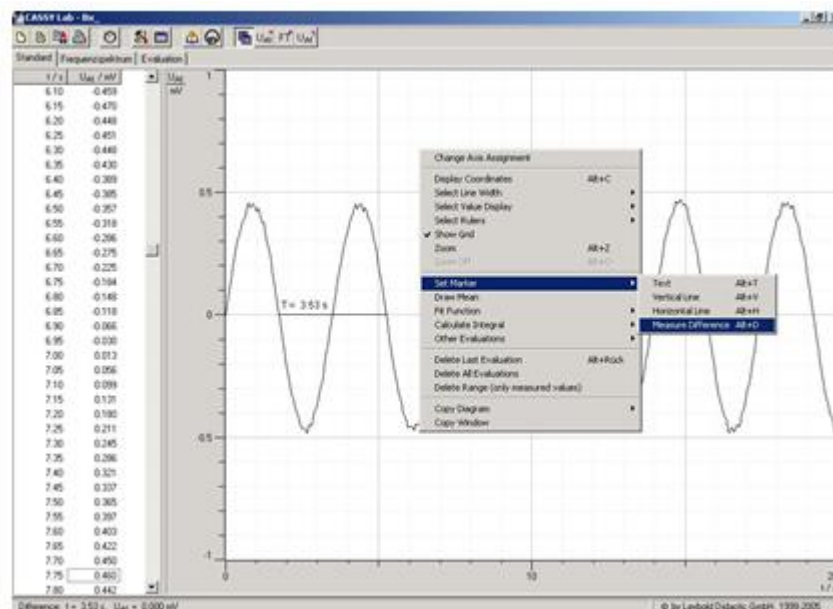

Figure 2: Determination of frequency (Method I)
- Click right mouse button in the display and choose “Set Marker/Measure Difference” (Fig. 2).
- Alt T allows you to display the result of the status line in the display (Fig. 2).